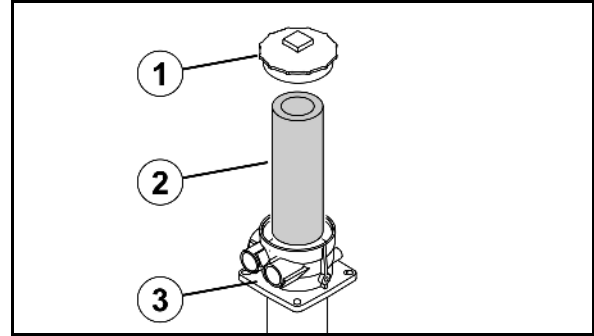

Fig. 162
1. Remove the cover (Fig. 162/1) from the housing (Fig. 162/3).
2. Replace the return filter (Fig. 162/2).